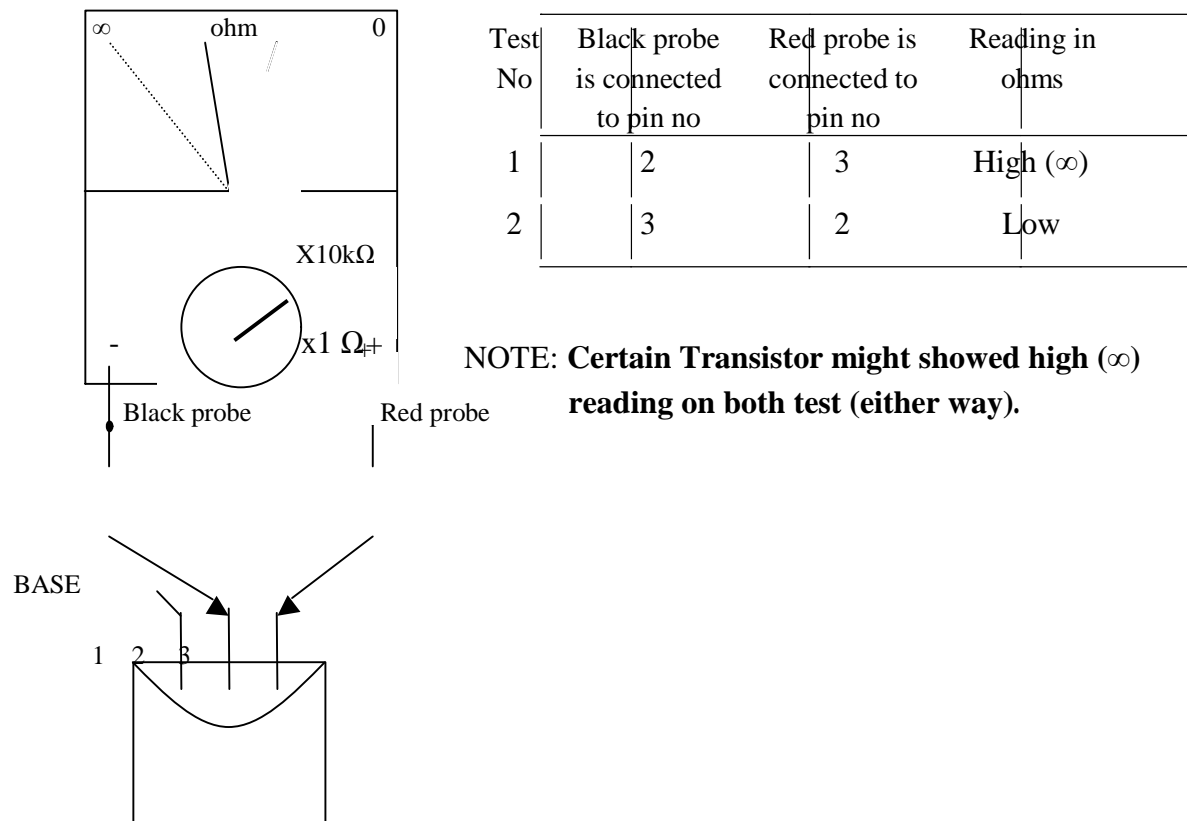

Figure 4 : Identifying the collector lead of an NPN transistor
Now you must determine which lead is the “emitter”, and which is the “collector”. Assuming you are checking an NPN type of transistor and you already know that lead number 1 is the base, and now you must determine which lead (lead 2 or 3) is the collector. First, set your **multimeter ohm’s range to x10kΩ**. Connect the test probe according to the diagram shown in Figure 4.
2. From Figure 4 the black probe is connected to lead 2 and this lead is the “**Collector**” and lead 3 is the “**Emitter**”.